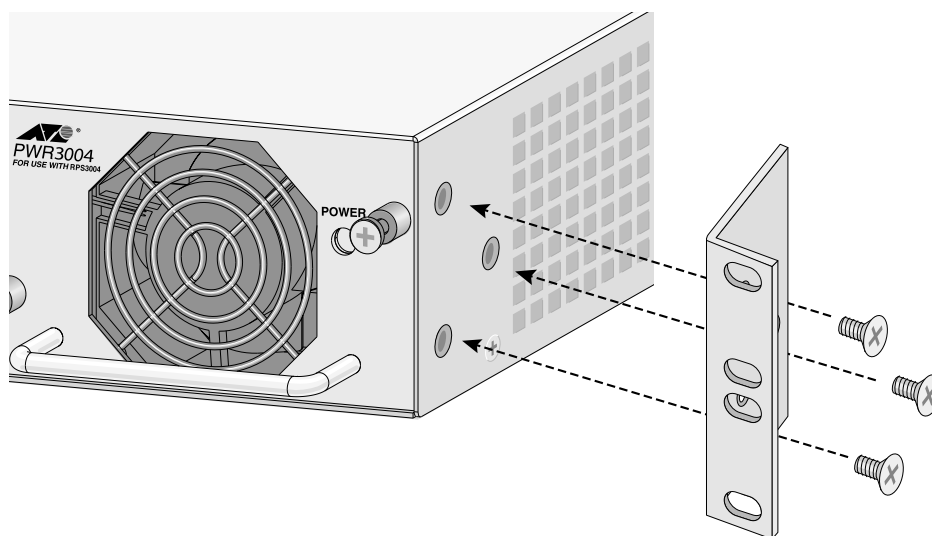

Figure 31 Attaching Rackmounting Brackets
4. Attach a rackmounting bracket to one side of the power supply using four of the screws that came with the power supply. See Figure 31.